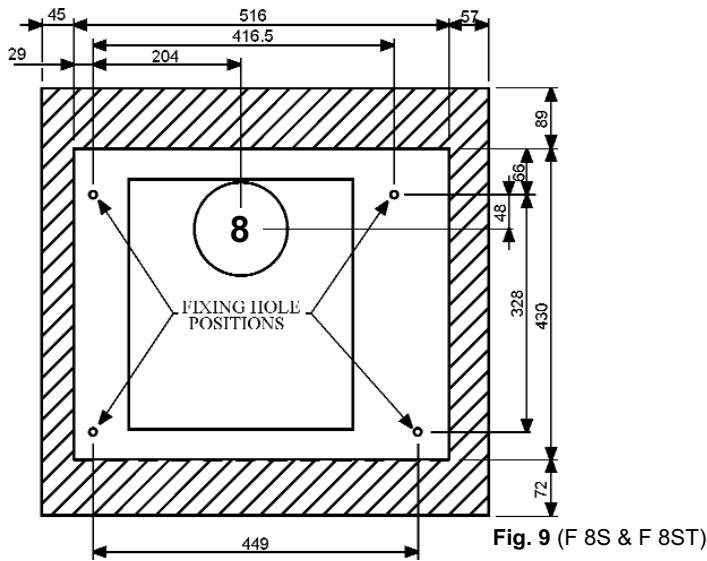

Fig. 9 (F 8S & F 8ST)
2. Select a position for the appliance. Using the template supplied, mark the position of the flue ducting and the four fixing holes. Ensure that the template is vertical (Fig. 9 or 10 depending on model).